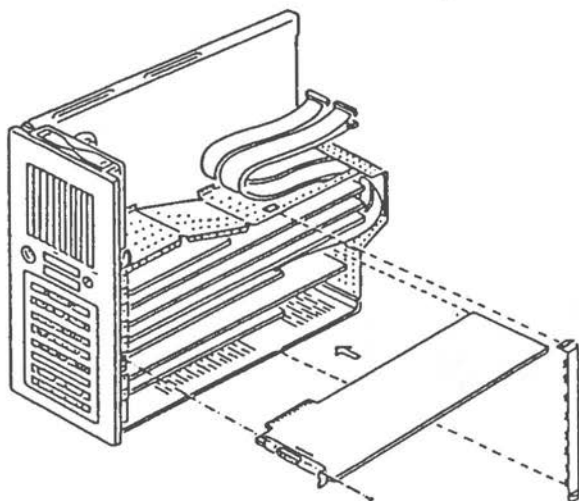

Figure 6-3 Option Board Removal
1. Remove the screw that secures the option PCB to the card rack assembly, see Figure 6-3.